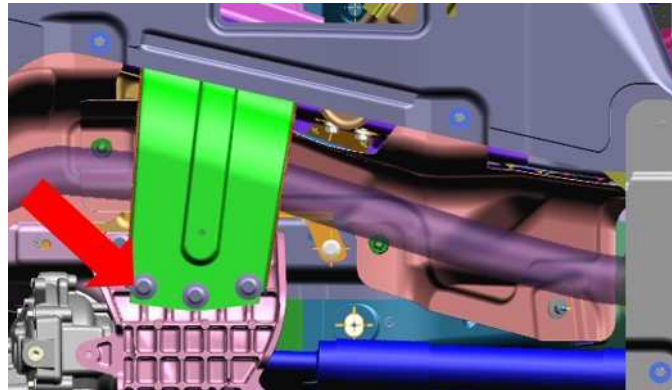

Fig. 6
3. Remove the cross member (Fig. 6) .
10. Install the cross member (Fig. 6) .